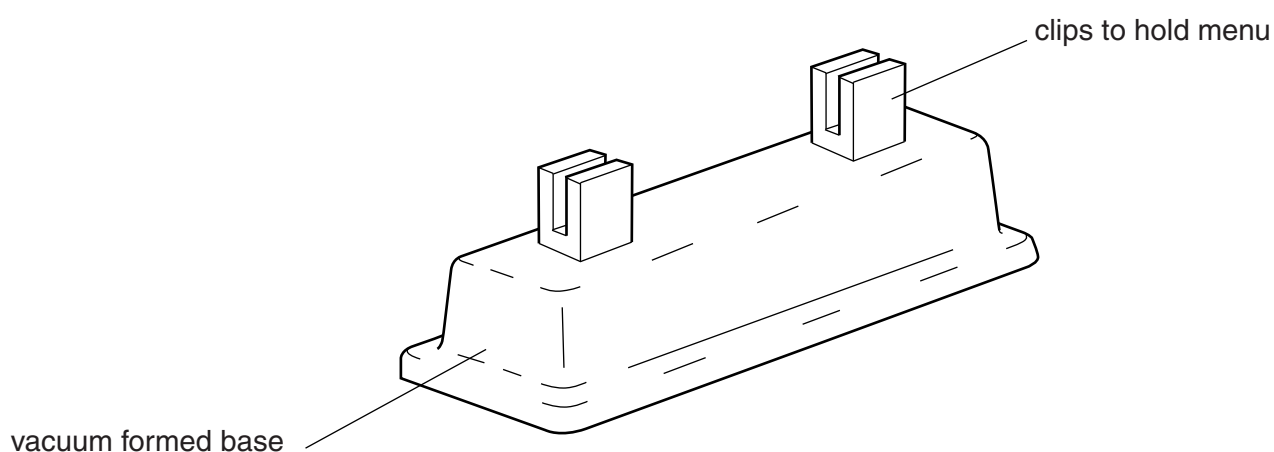
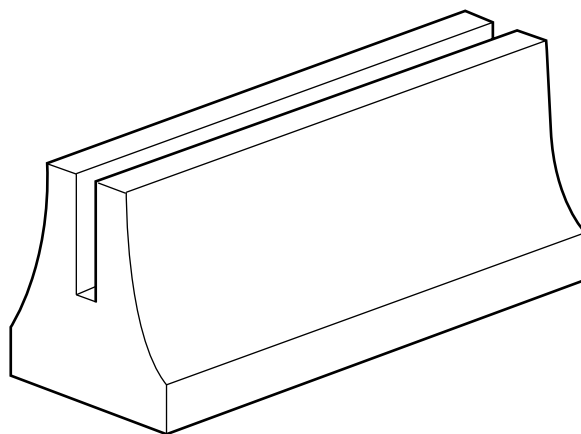

Fig. 5
Fig. 7
18 Fig. 5 shows a menu holder with a vacuum formed plastic base.
(a) Complete the list below to give the stages needed to vacuum form the base shown in Fig. 5.
(d) Fig. 7 shows another menu holder, also made of a thermoplastic material.
- (i) Give **three** benefits to a manufacturer of producing the menu holder shown in Fig. 7 rather than the one shown in Fig. 5.
- (ii) Name **one** industrial process that could be used for high-volume production of the menu holder shown in Fig. 7.